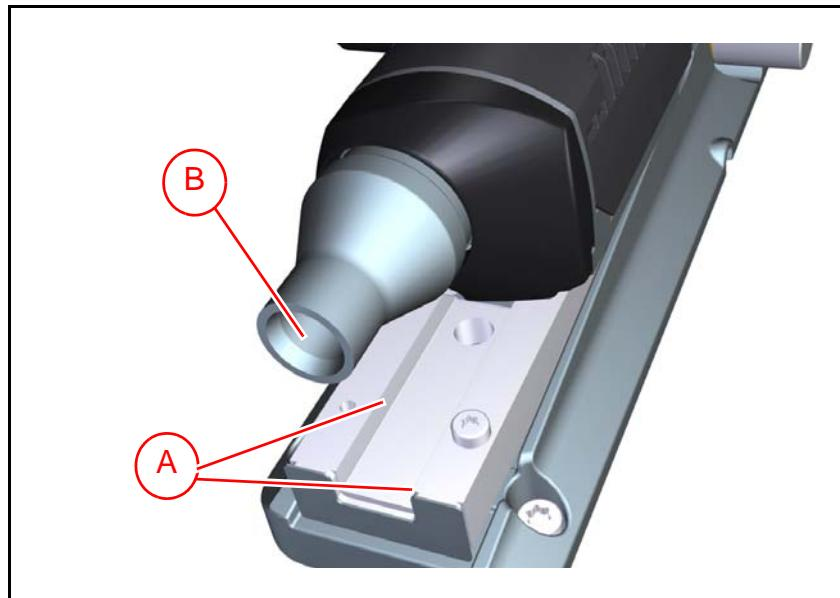

Figure 16-12. Midas Z-unit linear guides.
3. Use a lint-free cloth to wipe off old grease and dirt from the Z-unit linear guides ('A' in Figure 16-12) and apply a new thin layer of THK AFJ grease. Manually move the Z unit up and down a few times to disperse the grease evenly.